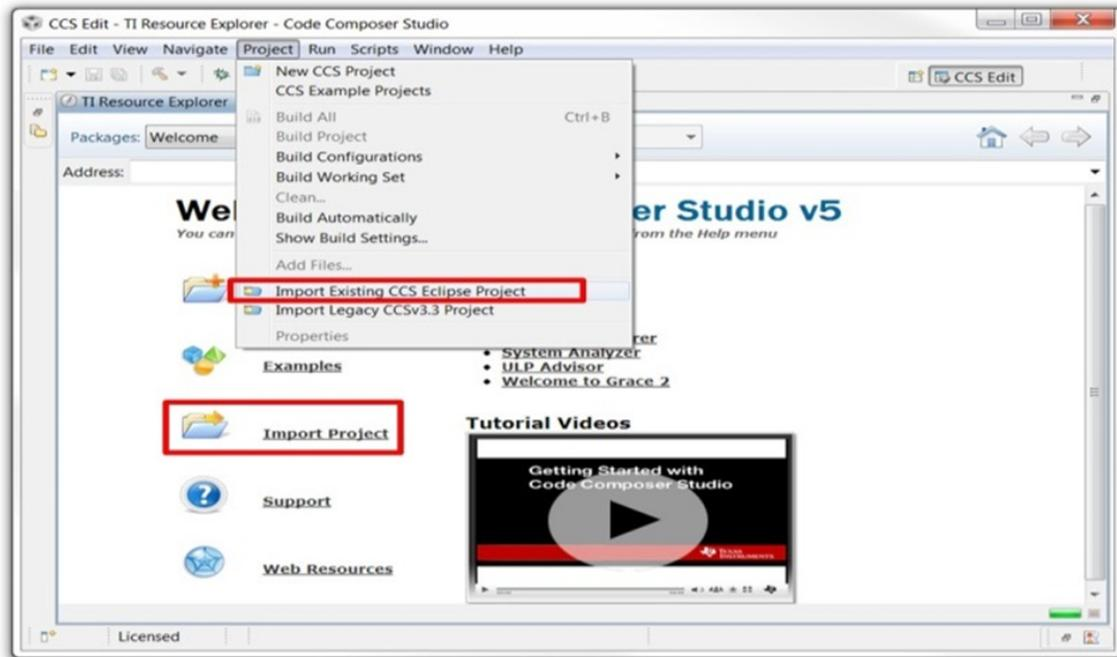

Figure 22. Importing CSS Project
- Step 4. Import a project either from the welcome menu by selecting *Import Project* or go to the *Project* menu and select *Import Existing CCS Eclipse Project* (see Figure 22).